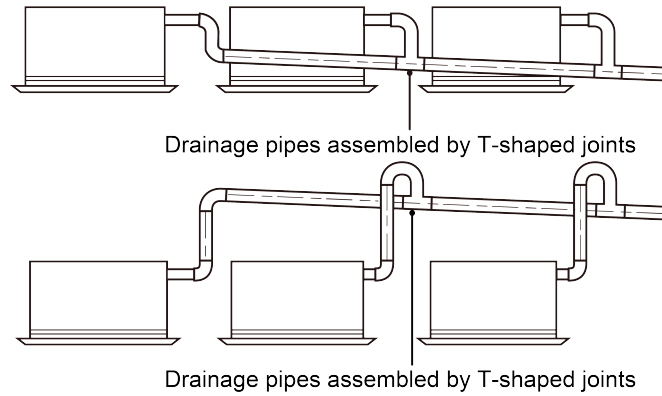

Fig.4.3.2
- (1) Drainage pipe should have the same diameter or larger diameter than the connection pipes (PVC pipe, outside diameter 25mm (1 inch), thickness $\geq 1.5\text{mm}$ (1/16 inch)).
- (2) Keep drainage pipe short and sloping downwards at a gradient of at least 1% for preventing forming air bubbles.
- (3) If the gradient of drainage pipe could not meet the installation requirements, raising pipe should be applied.
- (4) Insert the drainage hose into drain socket and then tighten the metal clamp securely.
- (5) Warp the sealing pad over drainage hose and metal clamp for heat insulation.
- (6) Make sure to perform insulation work for all drainage hoses in the room in order to prevent any possible water dropping due to dew condensation.
- (7) Apply the suitable diameter for converging drainage pipe according to the operating capacity of the unit, as show in Fig.4.3.2.